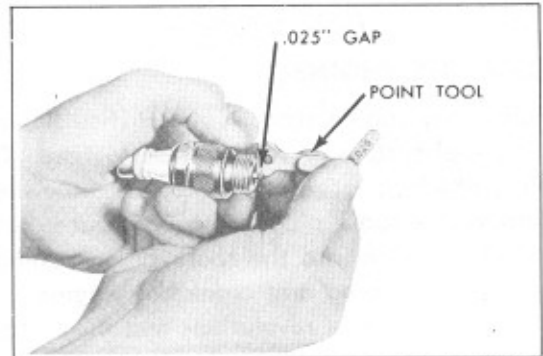

Fig. 8
B. SPARK PLUG ADJUSTMENT (See Fig. 8)
The spark plug gap should be maintained at .025". Approximately every 100 hours of operation, the plug should be removed and inspected. The spark plug points should be scraped clean and the plug thoroughly washed in alcohol. The points should then be reset to .025 inches. To set the points, a spark plug wrench or any similar tool should be used. (See Fig. 8.) Spark plug size 18 mm. metric equivalent to Champion No. 8.